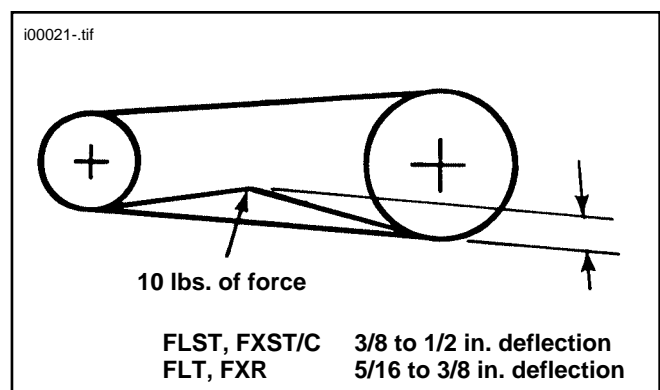

Figure 4. Belt Tension
8. See Figure 4. When 10 lbs of force is applied at the midpoint of the belt's bottom span, belt deflection should be within the following measurement ranges, depending upon the vehicle model: